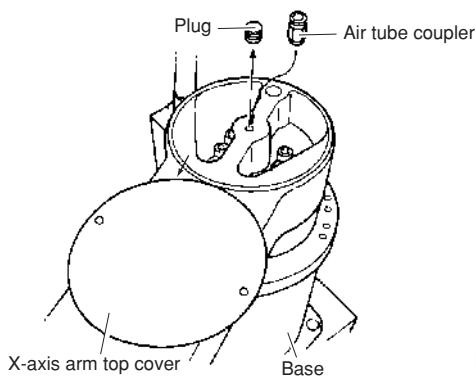

Fig. 5-27
- 6) Remove the plug on the top of the X-axis arm. (See Fig. 5-27.)